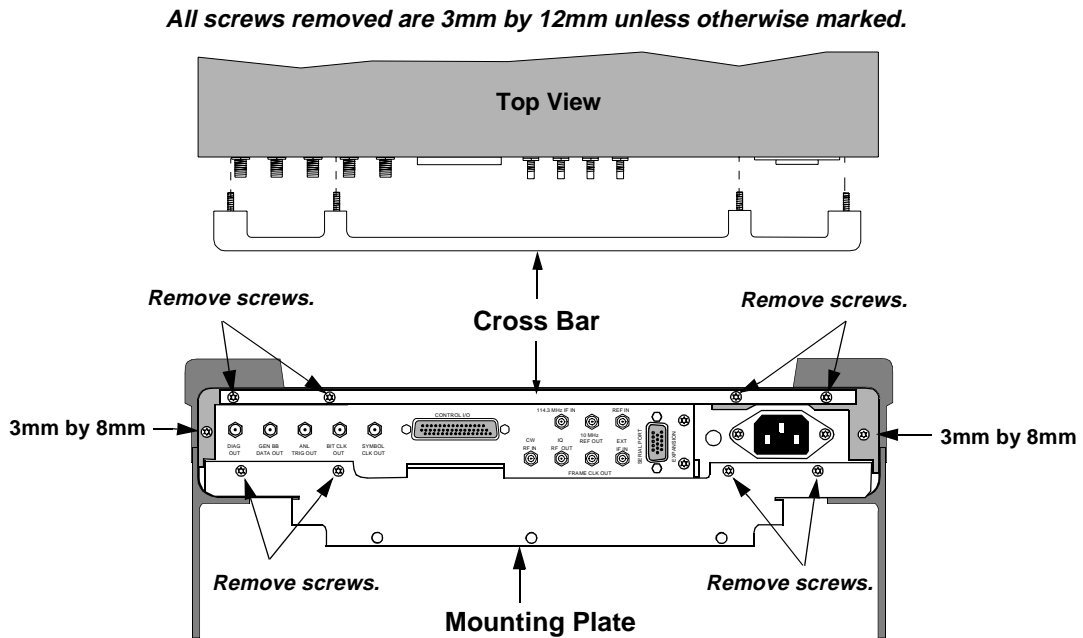

Figure 14 Removing the Cross Bar and Mounting Plate
3. Remove the cross bar and mounting plate from the Cellular Adapter by removing the screws shown in figure 14.